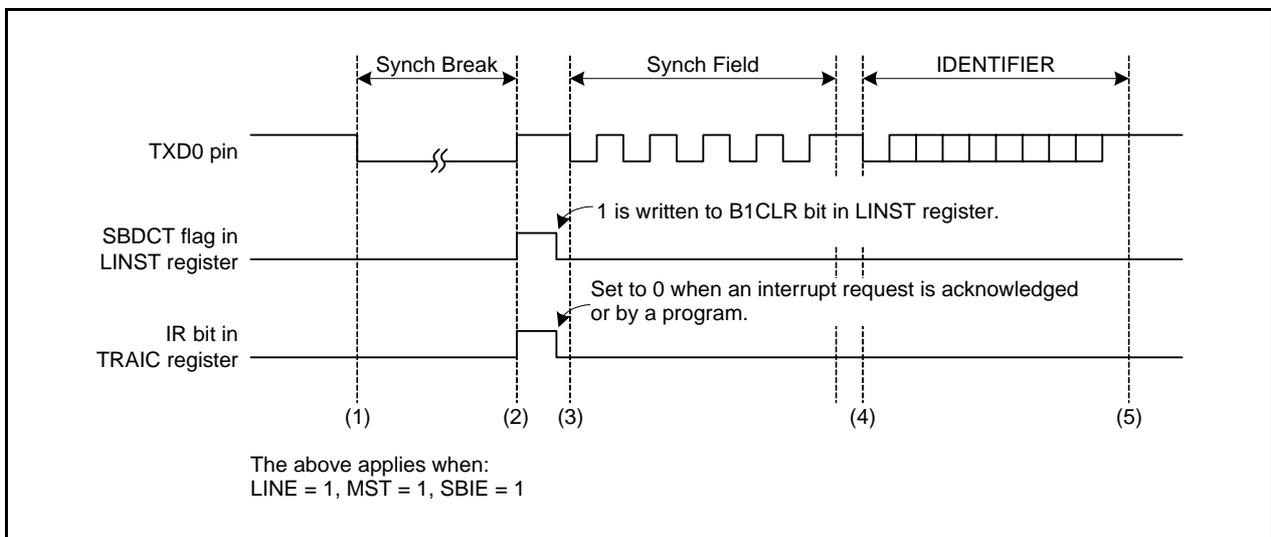
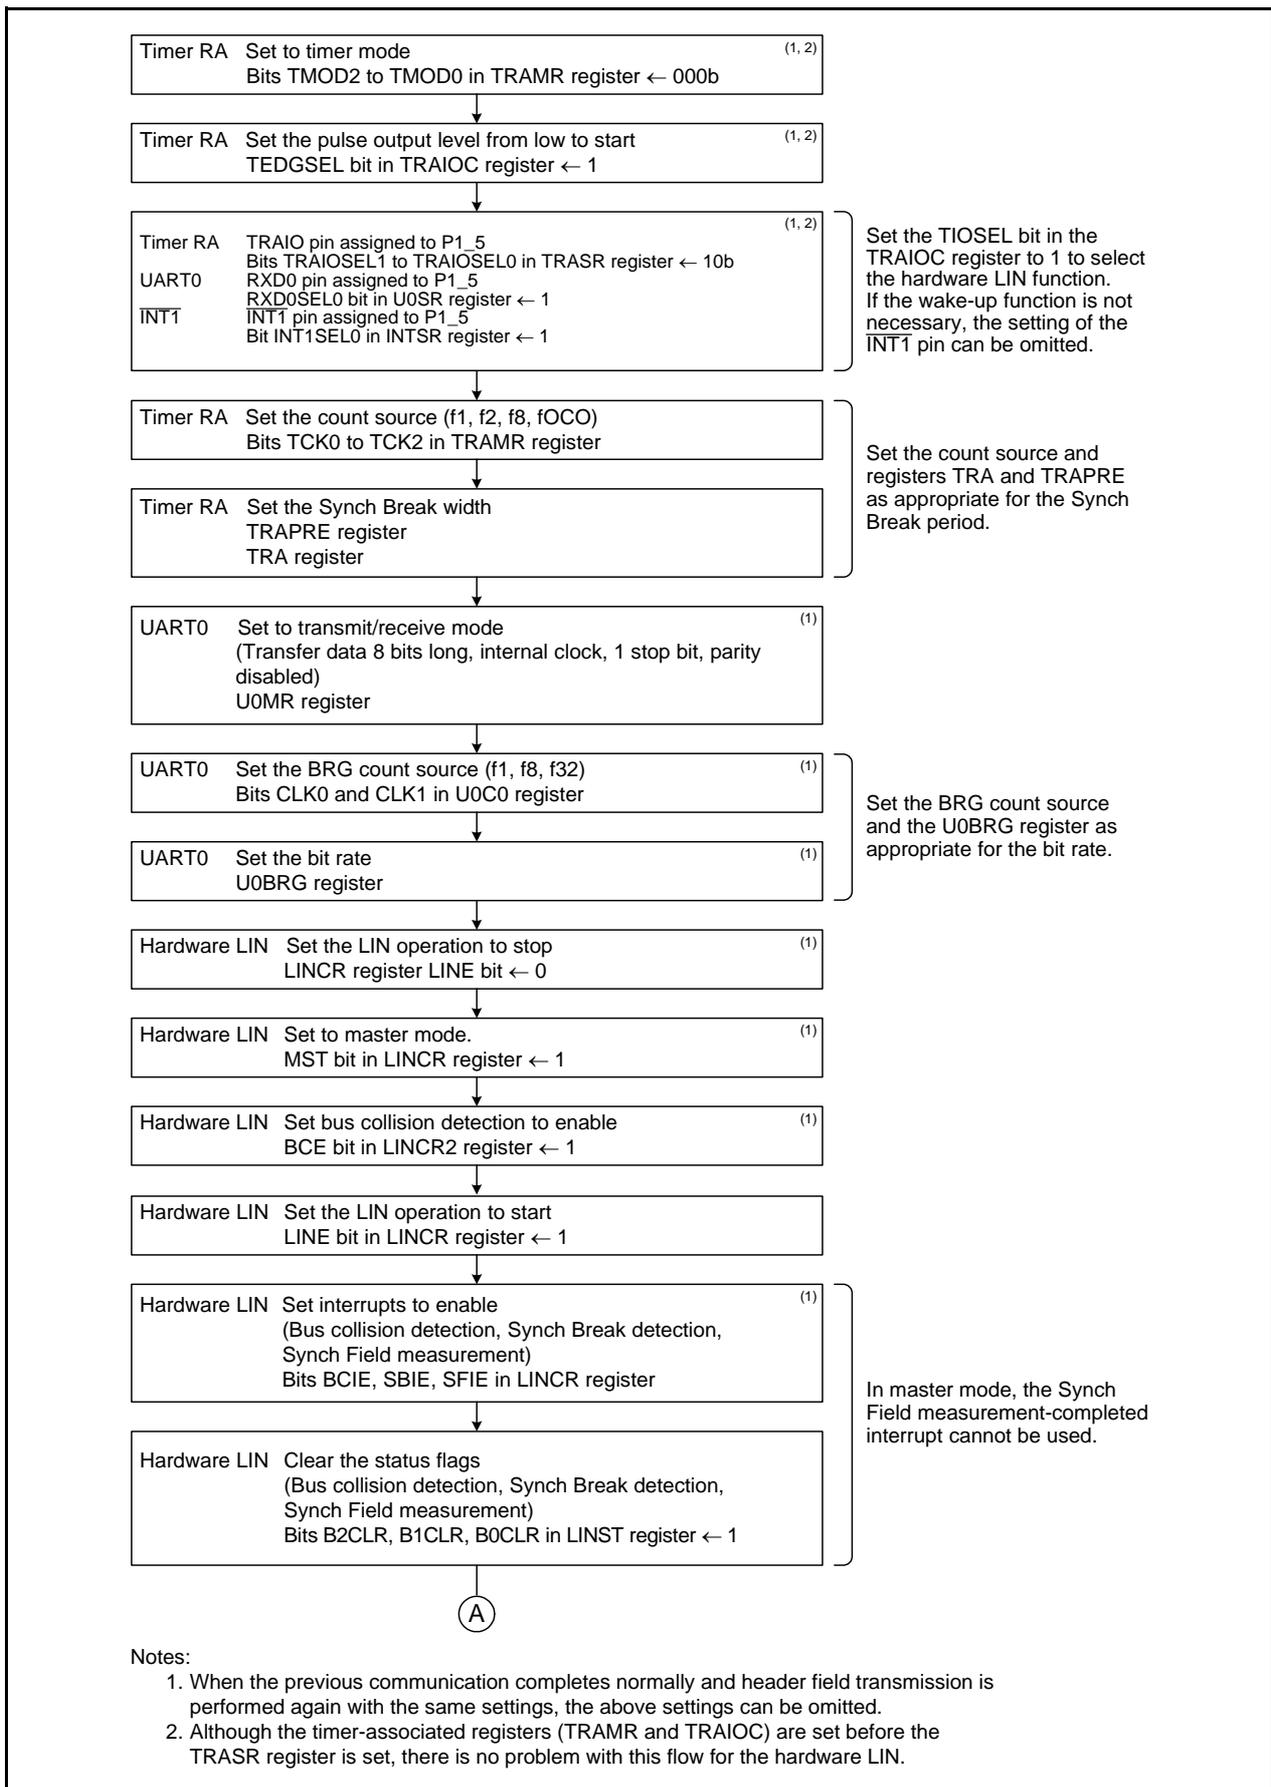
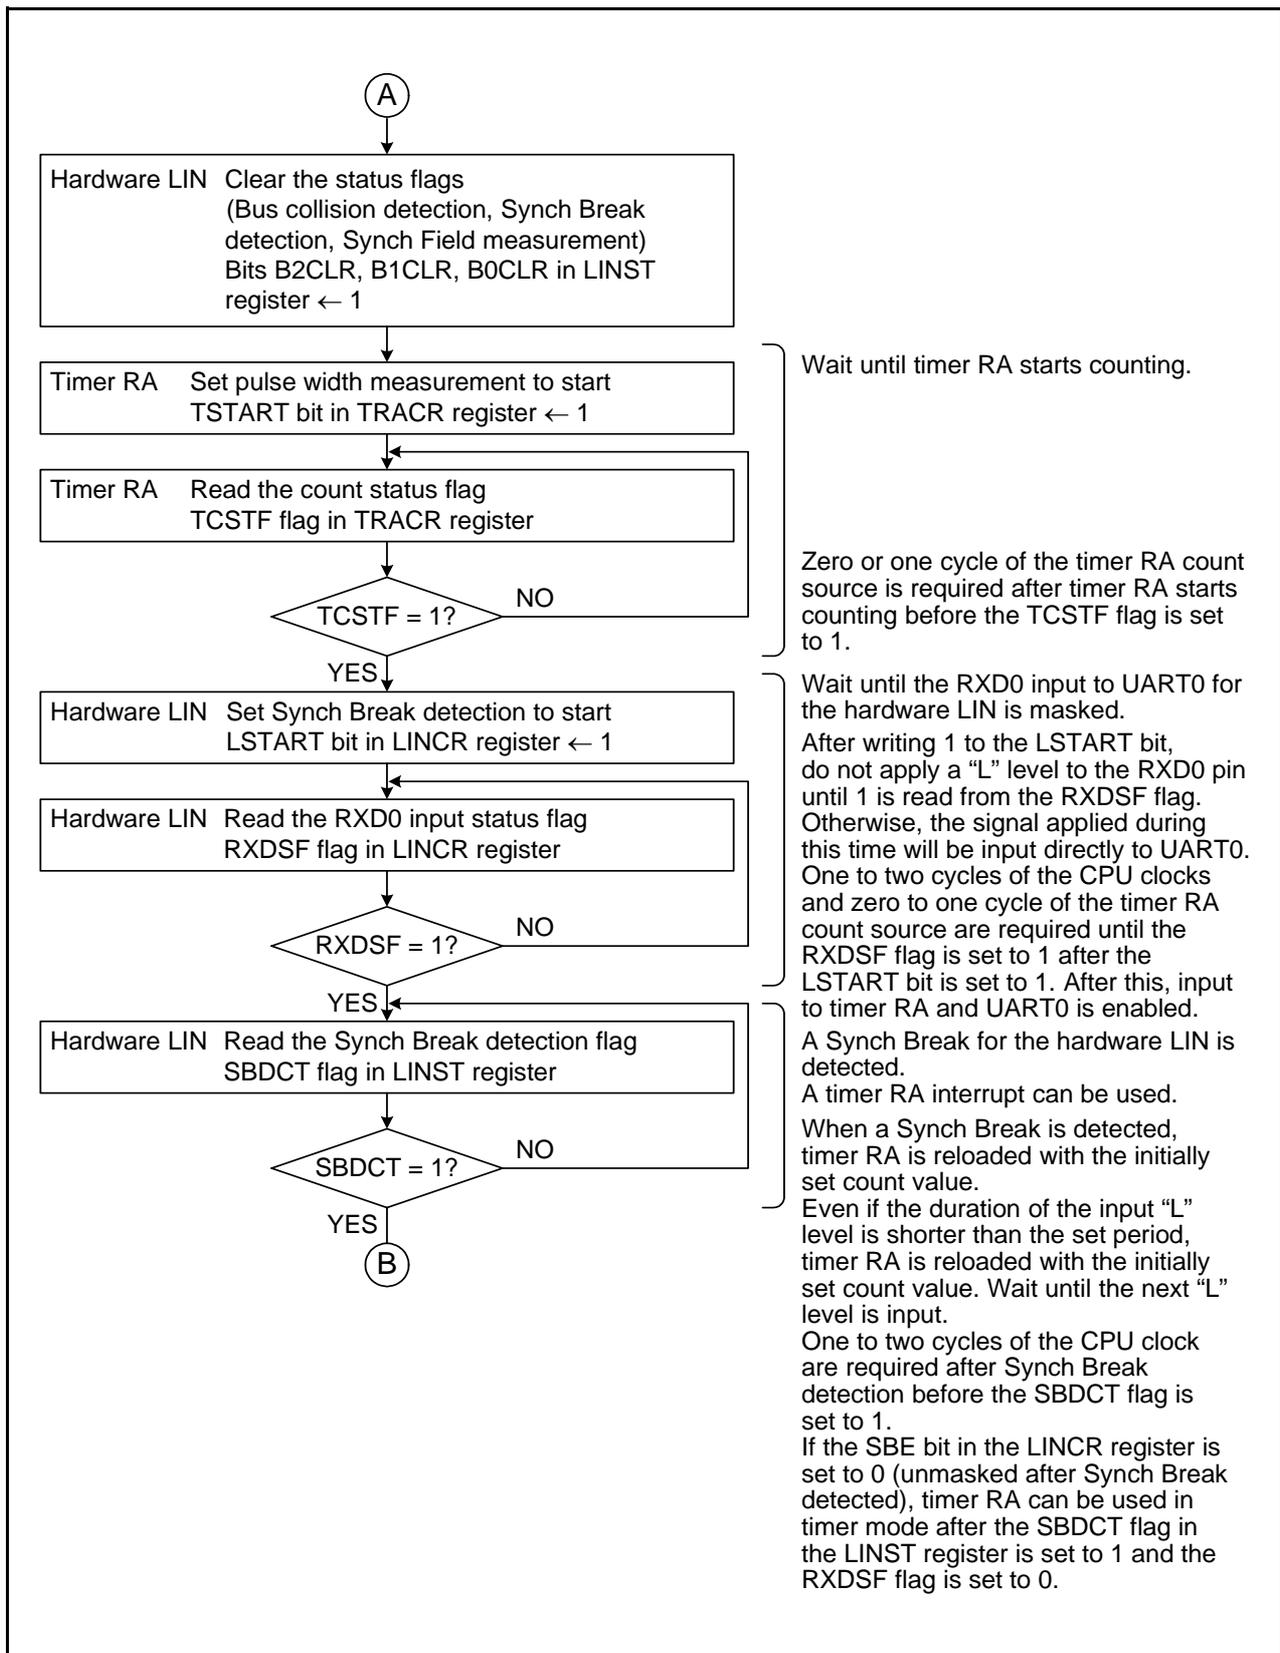

Figure 25.2 Operating Example during Header Field Transmission
Figure 25.3 Header Field Transmission Flowchart Example (1)
Figure 25.7 Header Field Reception Flowchart Example (2)
3. Inputs to timer RA and UART0 are disabled immediately after the LINE bit is set to 1 (LIN operation starts). (Refer to **Figure 25.3 Header Field Transmission Flowchart Example (1)** and **Figure 25.7 Header Field Reception Flowchart Example (2)**.)
Figure 25.2 shows an Operating Example during Header Field Transmission in master mode. Figures 25.3 and 25.4 show Examples of Header Field Transmission Flowchart.